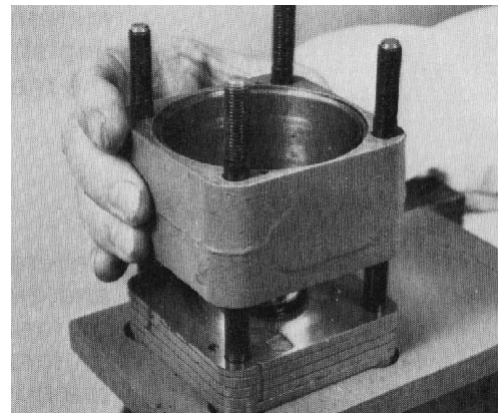

Figure 87
24. Apply clean multi-purpose grease to the metering ring seal ring. Put the seal ring into position in the metering ring seal groove opposite to the end with the alignment pin holes. Stack the metering ring into place, over the four bolts, with the seal ring towards the upper cover plate. Make sure an alignment pin hole on the metering ring is in line with and on the same side as the alignment groove on the side of the upper cover plate (Fig. 87). This is required so the other components can be aligned correctly.